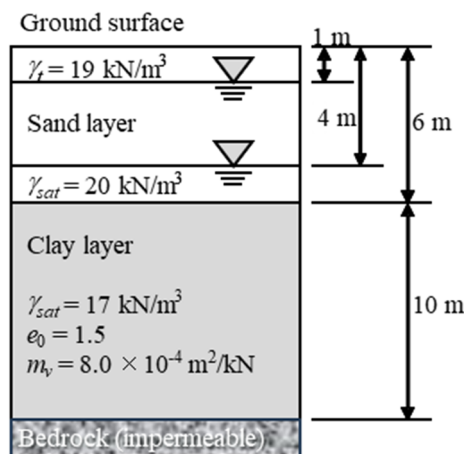

Figure 3-1
(1) As shown in Figure 3-1, there is a ground consisting of a 6 m thick sand layer and a 10 m thick clay layer on an impermeable bedrock. Here, the saturated unit weight of the sand layer below the groundwater table, γ_{sat} , is 20 kN /m³, and the wet unit weight of the sand layer in the area where the groundwater table drops, γ_t , is assumed to be 19 kN /m³, which is the same as that of the soil above the groundwater table. In addition, the saturated unit weight of the clay layer is 17 kN / m³, the initial void ratio, e_0 , is 1.5, the coefficient of compressibility, m_v , is 8.0×10^{-4} m²/kN, and the coefficient of consolidation, c_v , is 50 cm²/day. Furthermore, the unit weight of water is $\gamma_w = 10$ kN/m³.